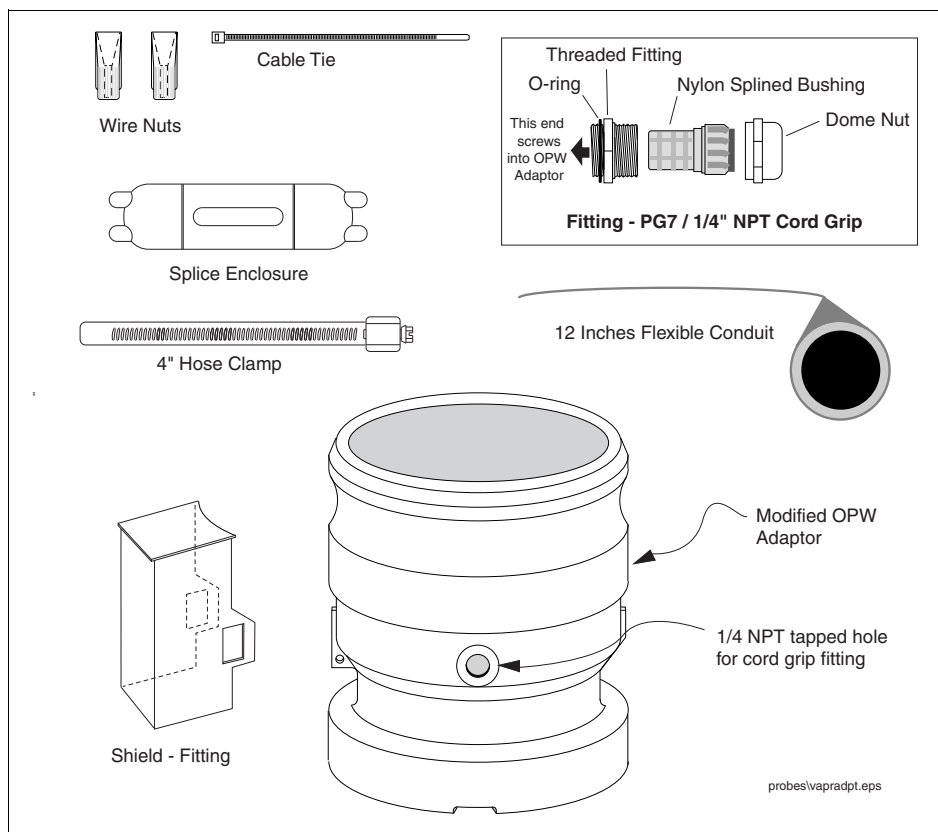

Figure 4. Mag Probe Vapor Extractor W/coupling Adapter Installation Kit
This kit contains parts needed to install a Mag Probe into a Vapor Extractor Riser that has a Coupling Adapter (parts listed in Table 2 and shown in Figure 4):
10. Slip the PG7 cord grip fitting (o-ring end first) over the cable and screw it into the tapped hole in the Coupling Adapter (ref Figure 4 on page 7 for the correct PG7 cord grip assembly). Tighten snugly - **Be careful not to overtighten**. Slide the domed nut of the PG7 fitting down the cable and tighten securely onto the PG7 fitting so that the cable stays firmly in place. **Again, be careful not to overtighten**.